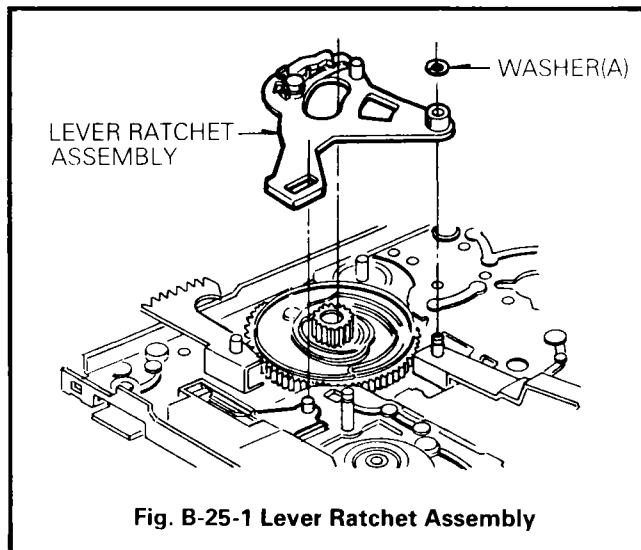

Fig. B-25-1 Lever Ratchet Assembly
- 1) Remove the washer(A) and remove the Ratchet Lever Assembly. (Fig. B-25-1).